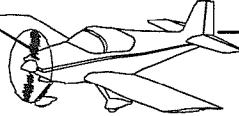

**FIGURE 2:** RIVETING THE R-1003B TOP RIB HALF
Step 2: Rivet the R-1003B Top Rib half to the R-1001-R Skin as shown in Figure 2. Use the rivets called out on Page 7-12, Figure 3 and, once again, leave the forward three holes open.